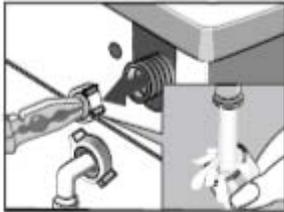

FIG. 21
2. Pull out the filter with long-nose pliers, and reinstall it after cleaning (see Fig. 21).